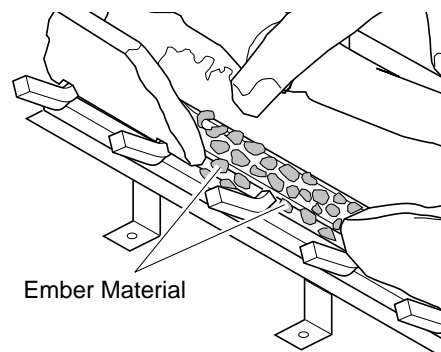

Figure 49 - Placing Ember Material on Burner
6. Pull ember material apart into pieces no larger than a dime. Place these pieces loosely and sparingly directly onto the exposed section of the front burner and along the space between the burner and grate prongs (see Figure 49). This will create the glowing ember appearance as the flame touches the ember material. Do not block air slots by using too much ember material in one area. It is not necessary to use all of the ember material provided.